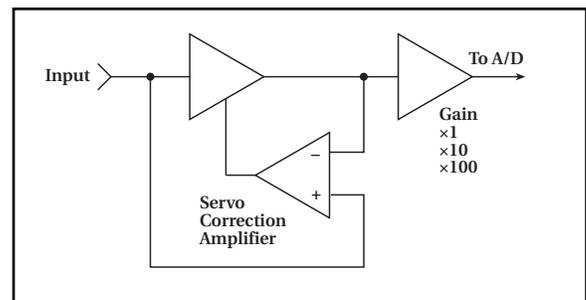

Figure 6.
- A unique “servo” front end design (Figure 6). While conventional DMMs typically measure and correct for the zero drift of front-end circuitry, the Model 2750's servo front end eliminates zero drift, which also eliminates the wasted measurement time usually required to check zero, further increasing measurement speed.